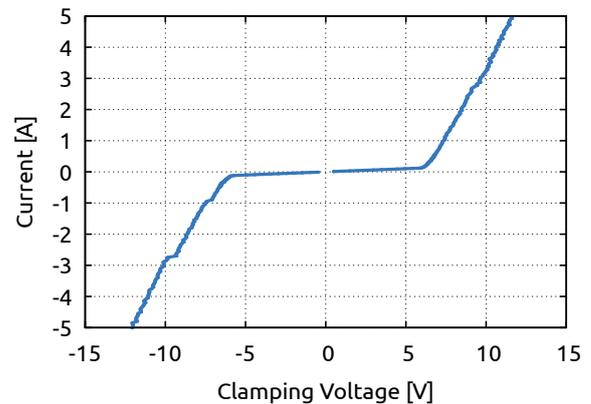
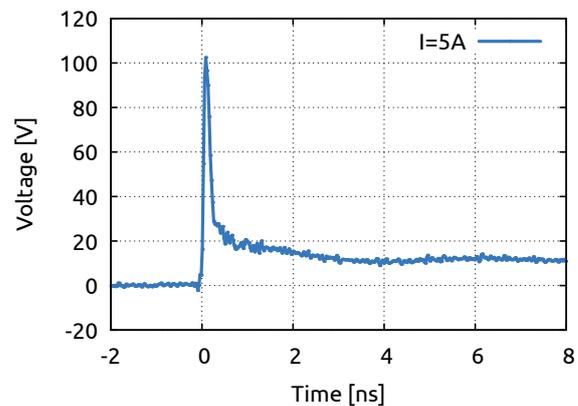

Figure 6: Clamping characteristic at 50 Ω, 100 ns pulse width, 100 ps rise time, 70 ns to 90 ns averaging window
Figure 7: Overshoot and clamping characteristic at 5 A or 250 V overload into 50 Ω at 100 ps rise time and 100 ns pulse width
Fig. 6 and Fig. 7 show the clamping and overshoot characteristics of the TVS-5VRR.
The TVS-5VRR is based on rail-to-rail low capacitance transient voltage suppressor (TVS) diodes. It protects the sensitive oscilloscope input against overload and destruction. In general, oscilloscopes from different vendors have different input maximum ratings at pulsed overstress at ESD/EOS condition. Therefore, HPPI cannot specify or guarantee any resulting level of protection. The resulting level of protection may be evaluated together with the oscilloscope vendor using the clamping characteristic of the TVS-5VRR shown in Fig. 6. The TVS-5VRR can be used from DC up to 7 GHz. Applying a DC voltage exceeding ±5 V may cause damage of the TVS-5VRR and must be avoided.
3. Compare the measurement result with Fig. 6.